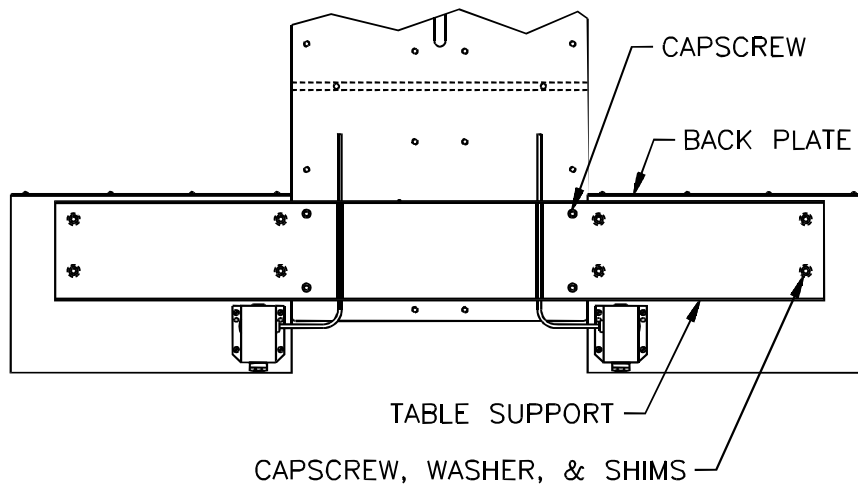

Figure 11
Using the wood screws provided, attach a back plate to each extension table. Using (4) 3/8-16 capscrows, attach the table support to the under side of the main table as shown in (Figure 11). Route each cut button wire through the slots in the bracket and relocate the cut buttons to the extension tables (as shown). Place the provided flat washers on the table support above each slot receiving a screw to mount the extension table on the support. Lay the table extension on top of the spacers and insert the screws. Slide the table extension tight to the table. Shim the extension tables as necessary to make the tables flush using the provided shims.